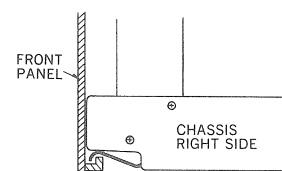
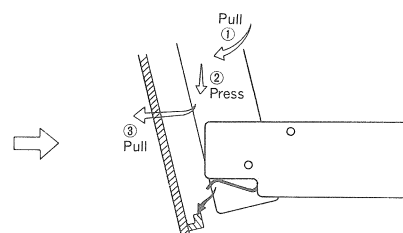

Fig. 6
Fig. 7
10. Remove the front panel from the chassis, as shown in fig. 6 to fig. 7.